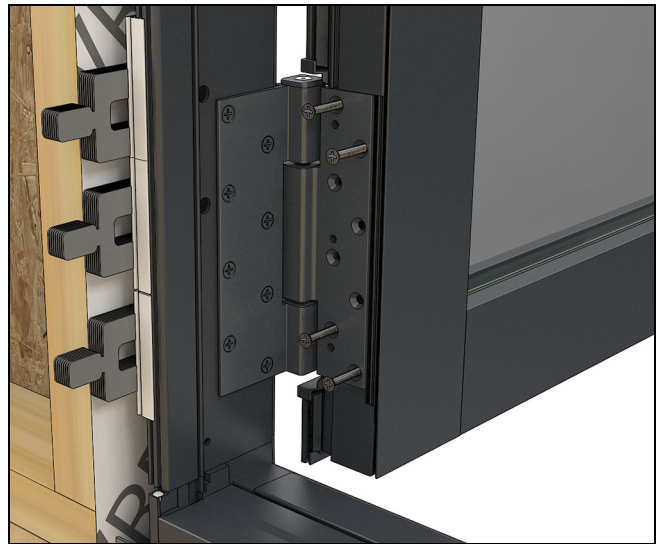

Figure 60
2. Hand tighten #10 x 1 1/2" machine screws to fasten the hinges (2) to the panel. Fasten at least 4 of the 8 screws (two to the exterior and two to the interior). See Figure 60.